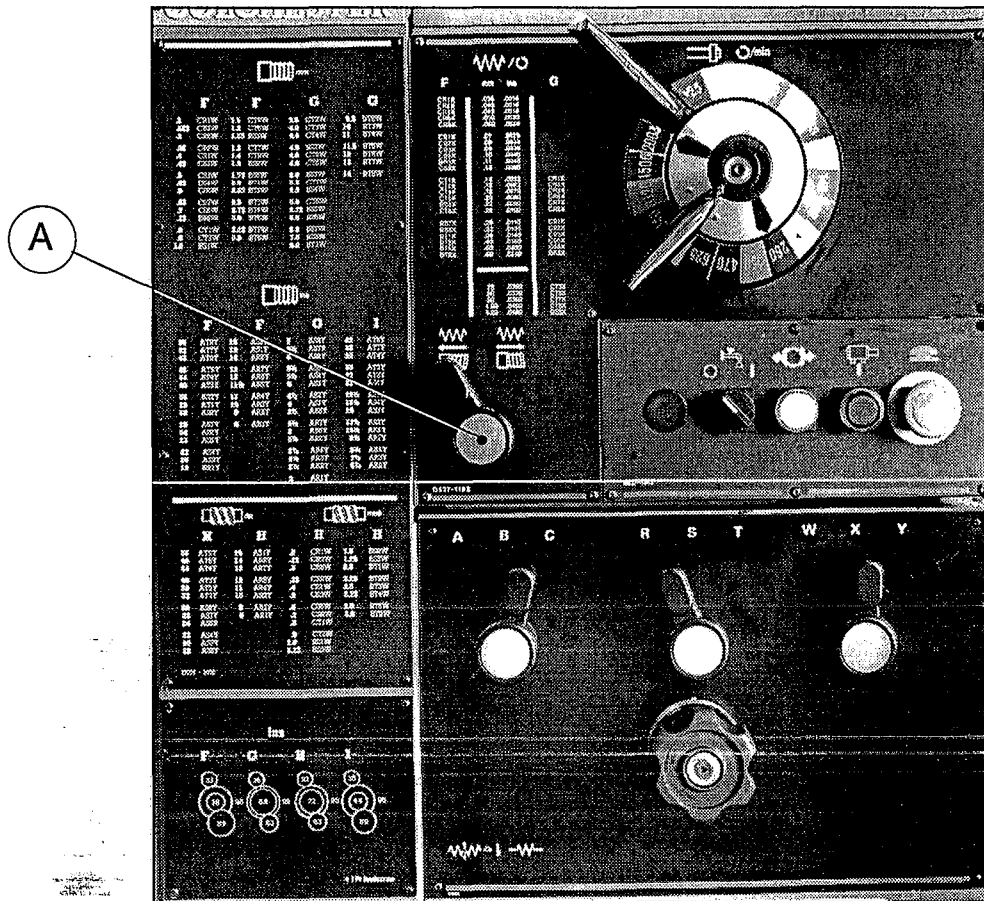

Fig. 9
All threads and feeds directly available from the gearbox are shown on the data plates fitted to the headstock and change gear cover (Fig. 9) together with the relevant end gear train combinations and lever settings.
Using lever (A) on the headstock (Fig. 9) the direction of rotation of both leadscrew and feedshaft may be reversed.